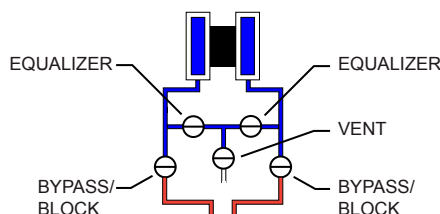

Figure 2.25 - Valve positions for manifold leak test
3. Close both bypass/block valves on the manifold to isolate pressure between the block valve and the MVT (Figure 2.25).